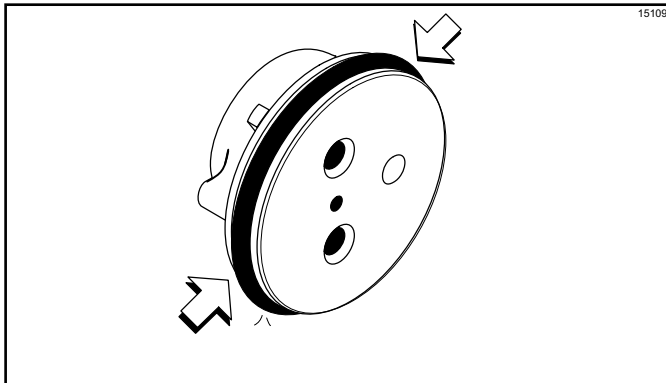

Figure 6-28
5. Assemble the valve cap. Slide the O-ring into the groove of the valve cap. **Do not** lubricate the O-ring. (See Figure 6-28.)